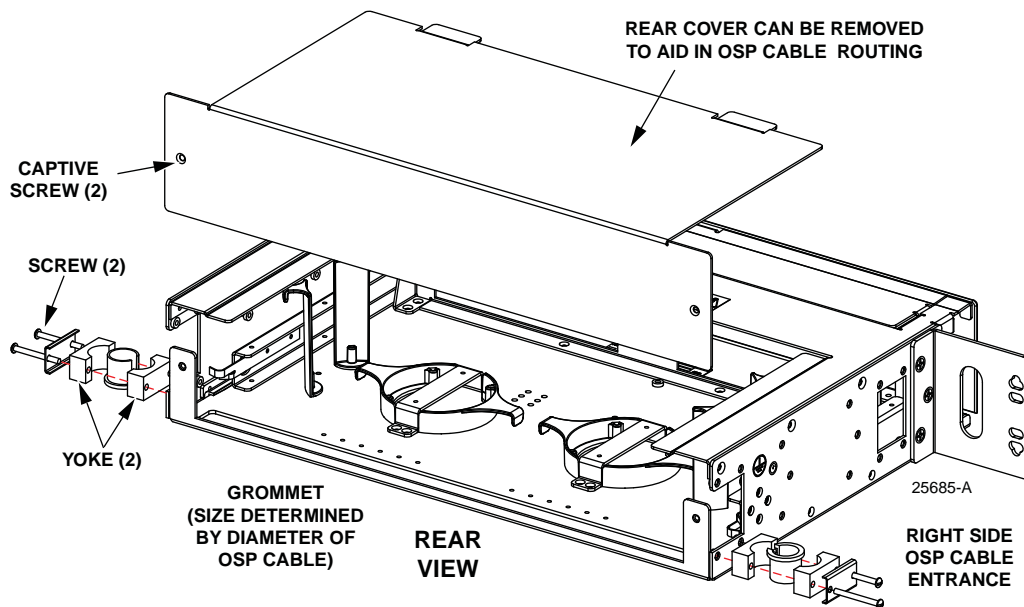

Figure 15. Cable Clamp Assembly for OSP Cable
3. Install the cable clamp as shown in Figure 15.